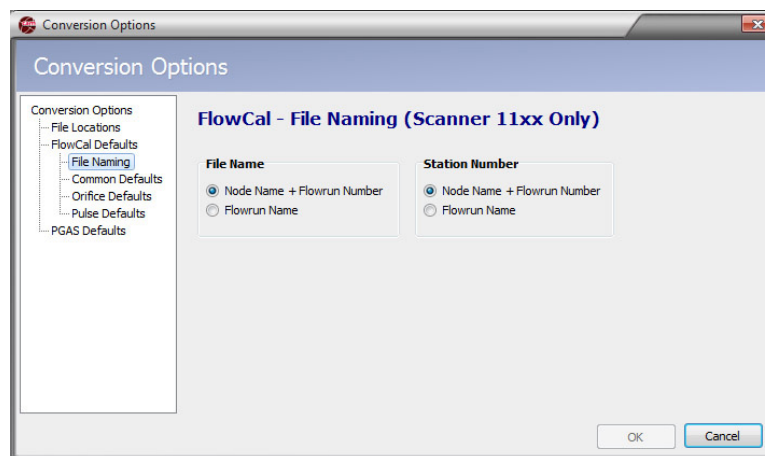

Figure 5.2—Flow-Cal File Naming dialog
- File Naming (Figure 5.2)—Select **Node Name + Flowrun Number** or **Flowrun Name** in the “File Name” field and/or the “Station Number” field